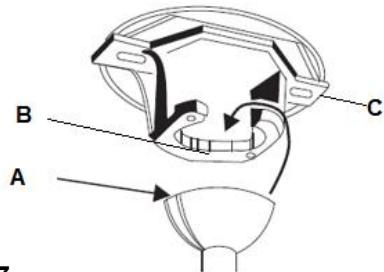

Fig. 7
Lift the fan assembly onto the mounting bracket. Ensure the key slot (A) of the hanger ball is positioned on the key pin (B) of the mounting bracket (C) to prevent the fan from rotating when in operation. **Fig. 7**